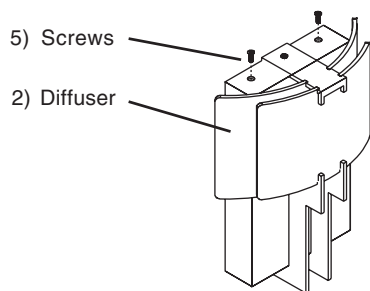

Fig 2
2. Rotate or position **Sconce housing (1)** so LED's are at the top and the drivers is on the bottom.
3. **DLSD3**-Install **Mounting Bracket (3)** by inserting **Screw (4)** through hole in mounting bracket and secure to housing. Install second screw through slot in bracket and secure to housing. **See Fig 1**. Align holes in **Diffuser (2)** with holes in mounting bracket and secure with **Screws (5)**. **See Fig. 2**.
3. Align holes in **Diffuser (2)** with holes in mounting bracket and secure with **Screws (5)**. **See Fig. 2**.
3. **DLSD3-** Para instalar la **ménsula de montaje (3)**, introduzca los **tornillos (4)** en los orificios de la ménsula de montaje y ajústela a la carcasa. Pase el segundo tornillo por la ranura de la ménsula y ajústela a la carcasa. Consulte la Fig. 1. Alinee los orificios del **difusor (2)** con los orificios de la ménsula de montaje y sujétela con los **tornillos (5)**. Consulte la Fig. 2.